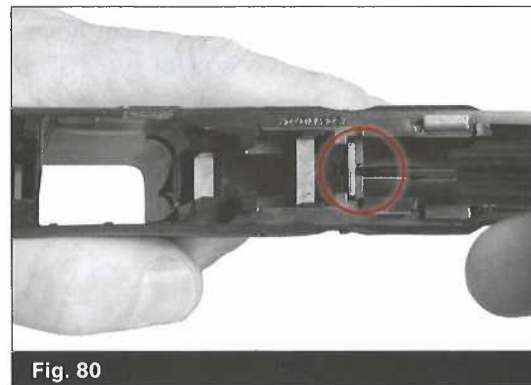

Fig. 80
- To remove the slide lock, first hold the frame on its side. Use the pin punch to press downwards on the flat slide lock spring just forward of and under the slide lock. When this spring is depressed, the slide lock should fall free from the frame. (Fig. 80)